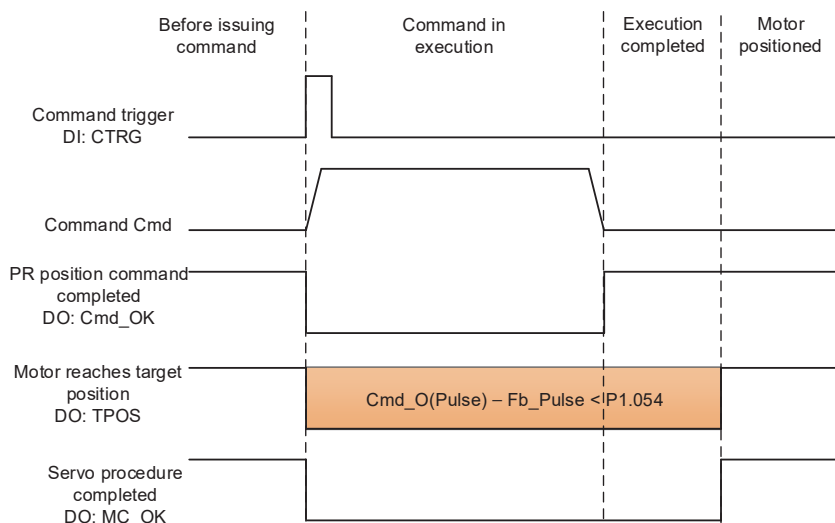

Figure 7-8 Operation of DI signals in PR mode
You can use the digital inputs (DI) to trigger PR paths and digital outputs (DO) to monitor PR paths (refer to section 8.4.9 and 8.4.10 for DI and DO function descriptions). When you trigger the motion command with DI.CTRG [0x08], the servo drive operates based on the command from the internal registers. See section 7.1.5 for all the trigger methods for the PR paths. Once the execution is completed, DO.Cmd_OK [0x15] is set to on. When the position deviation (pulse number) becomes smaller than the set amount in P1.054, DO.TPOS [0x05] (Motor reaches the target position) is set to on. When both DO.TPOS and DO.Cmd_OK signals are on the servo outputs the MC_OK [0x17] signal to signify that it has completed this PR path. The operation is as shown in Figure 7-8. If you have set a delay time in this PR and the position deviation (pulse number) is smaller than the value of P1.054, DO.TPOS [0x05] is set to on.